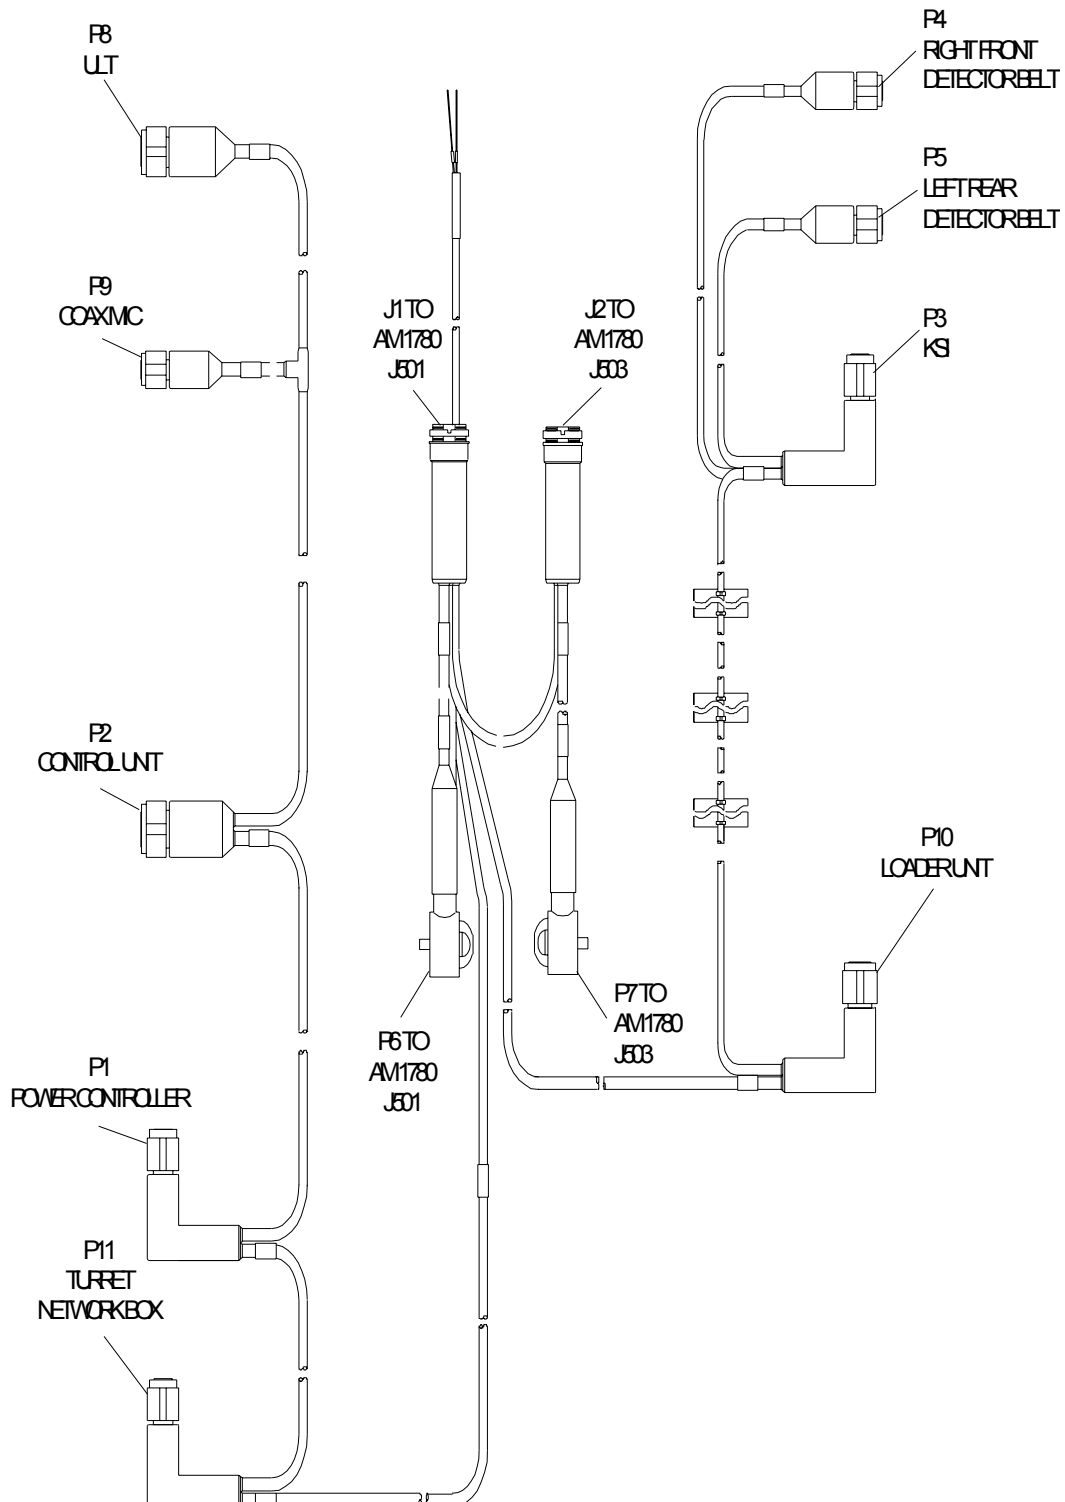

Figure 2-34. M1A1 VIC Internal/External System Cable Assembly.
2.3.2.14.1 M1A1 VIC System Cable. (See Figure 2-34.)